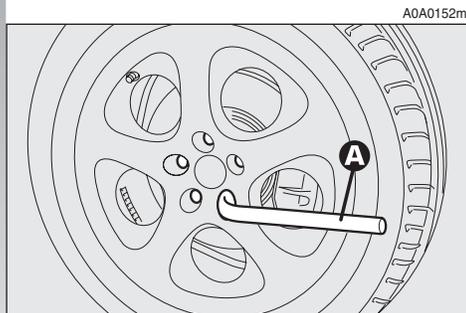

fig. 5
- Using the wrench provided (A-fig. 5), loosen the fastening bolts by about one turn.